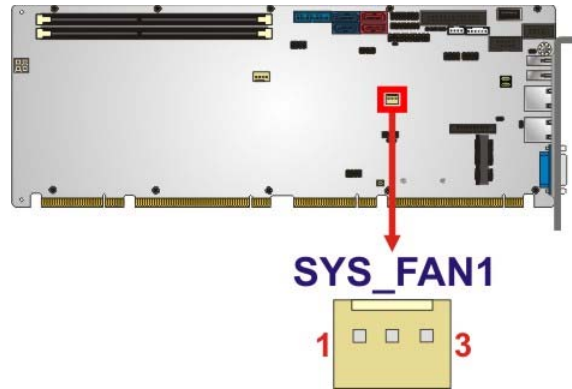

Figure 3-10: System Fan Connector Location
- CN Location:** See **Figure 3-10**